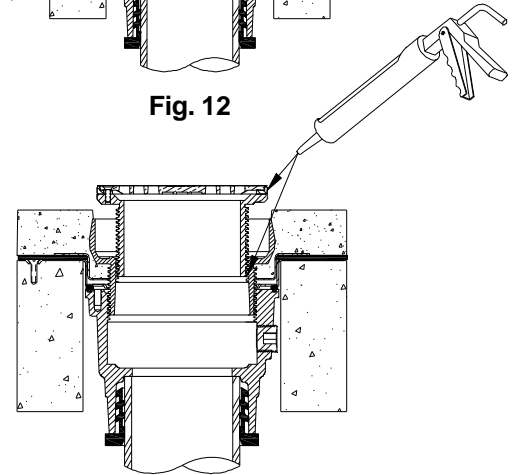

Fig. 13R
- 13a. Place a bead of silicone around the circumference of the last thread of the head assembly. See Fig. 13R
- 13b. Thread head assembly down until bottom of the frame is flush with the top of the concrete. See Fig. 13R
- 13b. Place a bead of silicone around the perimeter of the strainer frame. See Fig. 13R